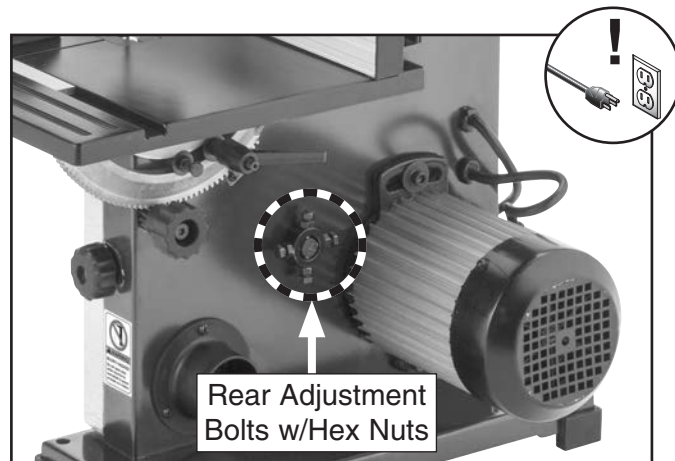

Figure 57. Location of rear lateral adjustment components.
There are four adjustment bolts with hex nuts in the lower wheel bracket, shown in **Figure 57**, that adjust the wheel tilt from side-to-side and up-and-down.
5. Loosen hex nuts on rear left and right adjustment bolts (see **Figure 57** on **Page 46**).